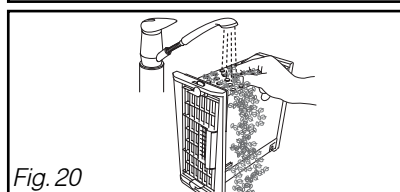

Fig. 20
- Clean it with water only under the tap (Fig.20).